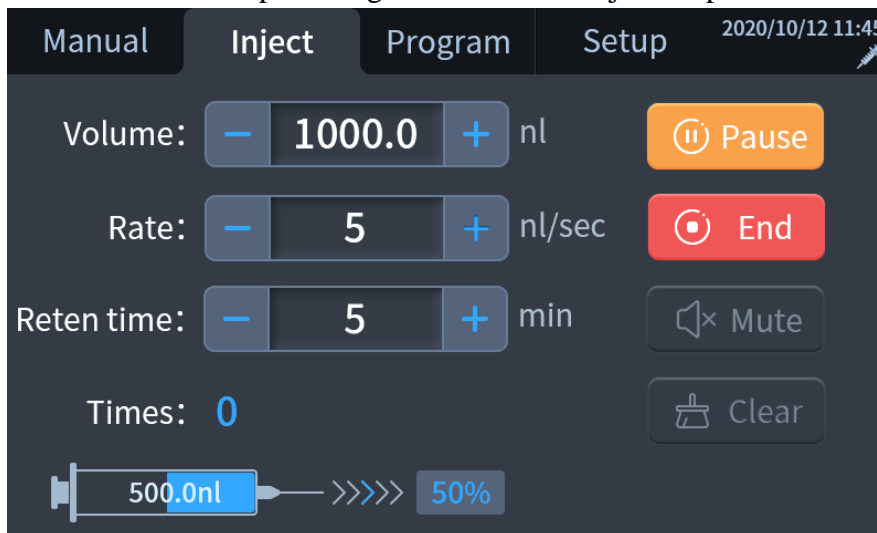

Figure 5-9
- 10) During the injection process, the injection progress is displayed in real time on the [Inject] interface, as shown in Figure 5-9.